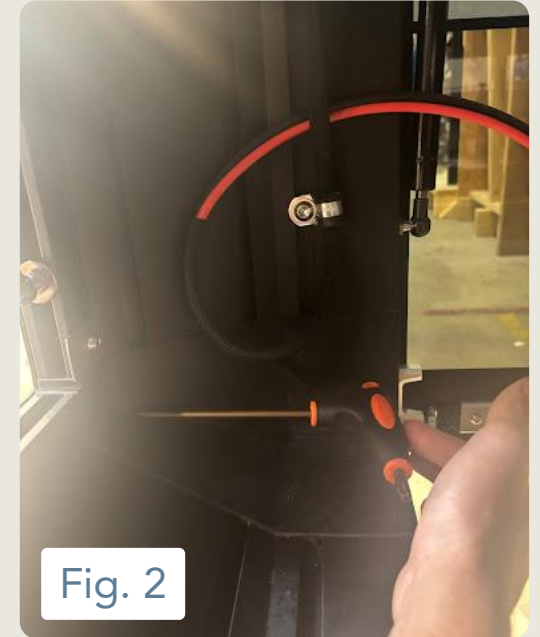

Fig. 2
3. Remove corner bracket cover using T40 (Fig 2+3)